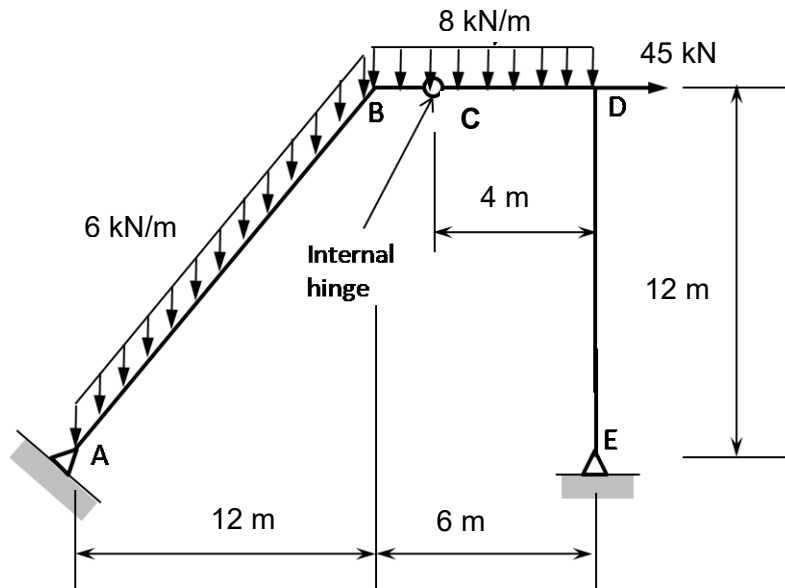

Figure 3
- (c). **Figure 3** shows a frame which is pin-supported at A and E. Joint C is a hinge joint. Vertical uniformly distributed loads of 6 kN/m and 8 kN/m act along inclined member AB and horizontal member BD, respectively. Joint D is subjected to a horizontal concentrated load of 45 kN.